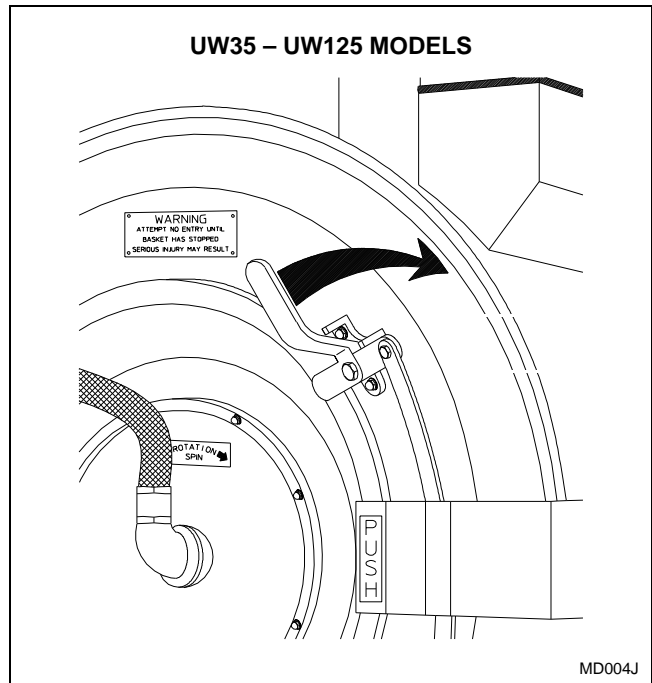

Figure 22
3. On UW35 – UW125 models, use right hand to turn door handle clockwise and swing the door left to open. Refer to *Figure 22*.